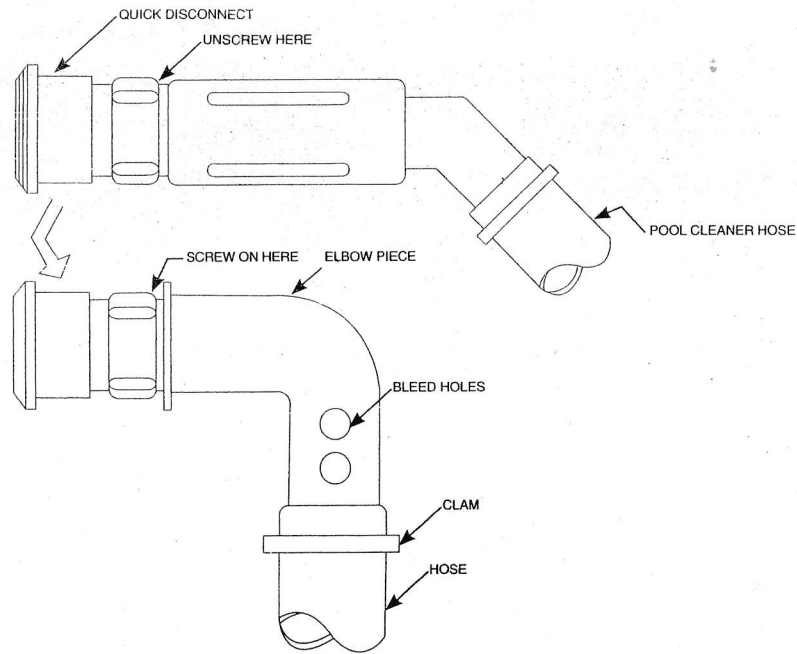

FIGURE 7
- Pool cleaner quick disconnect fittings. Refer to Figure 7. Use installation **instruction 4, page 6** for this type inlet.
2. Unscrew the end of your pool cleaner hose fitting as indicated in Figure 7. Screw the quick disconnect fitting on to the threaded end of the Elbow Piece(6). This is your inlet adapter.
3. Refer to Figure 1. Uncoil the hose (3) and remove all twist. Using clamps(15), clamp one end of the hose to the back side of the fountainhead (1) and the other end to the inlet adapter from step 2. Cover one set of bleed holes with the hose (Fig.7). To tighten clamp, grasp "tabs" between thumb and forefinger and squeeze. Tighten securely with a pair of pliers. To open the clamp, grip one "tab" of the clamp with pliers and twist loose.
4. Using the tie wrap(14), LOOSELY attach the anchor(4) to the hose (3). the anchor(4) should be attached to the hose(3) at a point as deep as the water plus approximately two feet. You will have to estimate what the water depth is where you want the fountain and add two feet **CAUTION: DO NOT CONSTRICT THE HOSE BY TIGHTENING THE TIE WRAP (14) TOO TIGHT.**
6. Place the fountain assembly into the pool. Position the fountain in the desired location being careful not to crimp the hose (3).
Height adjustment is achieved by covering more or less of the bleed holes(Fig.7) on your elbow piece(6) with the hose(3). The more holes covered, the higher the fountain and vice versa.